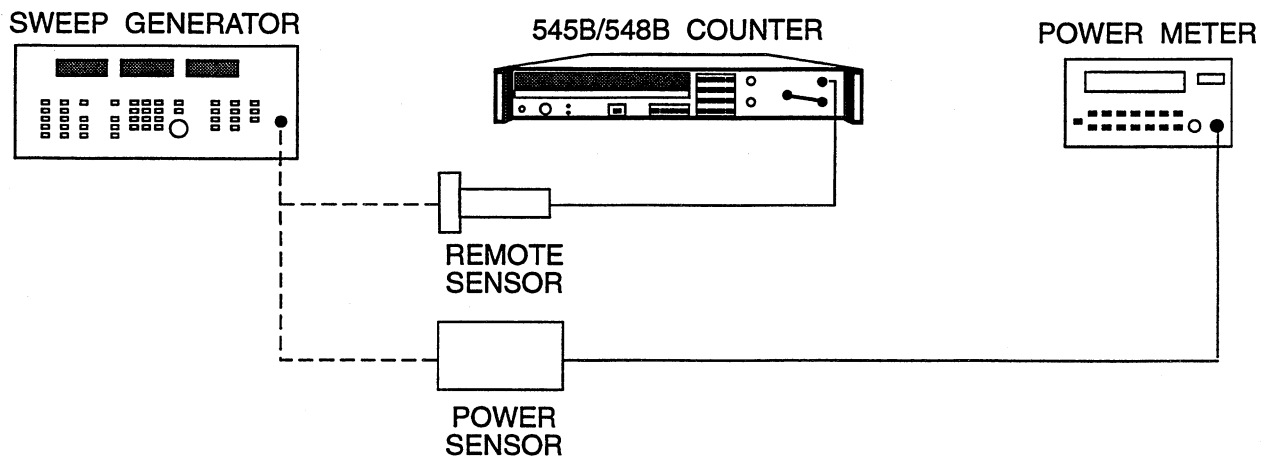

Figure 5-7. Band 4 Range and Sensitivity Test Setup (Model 548B, Option 06).
1. Connect equipment as shown in Figure 5-7.